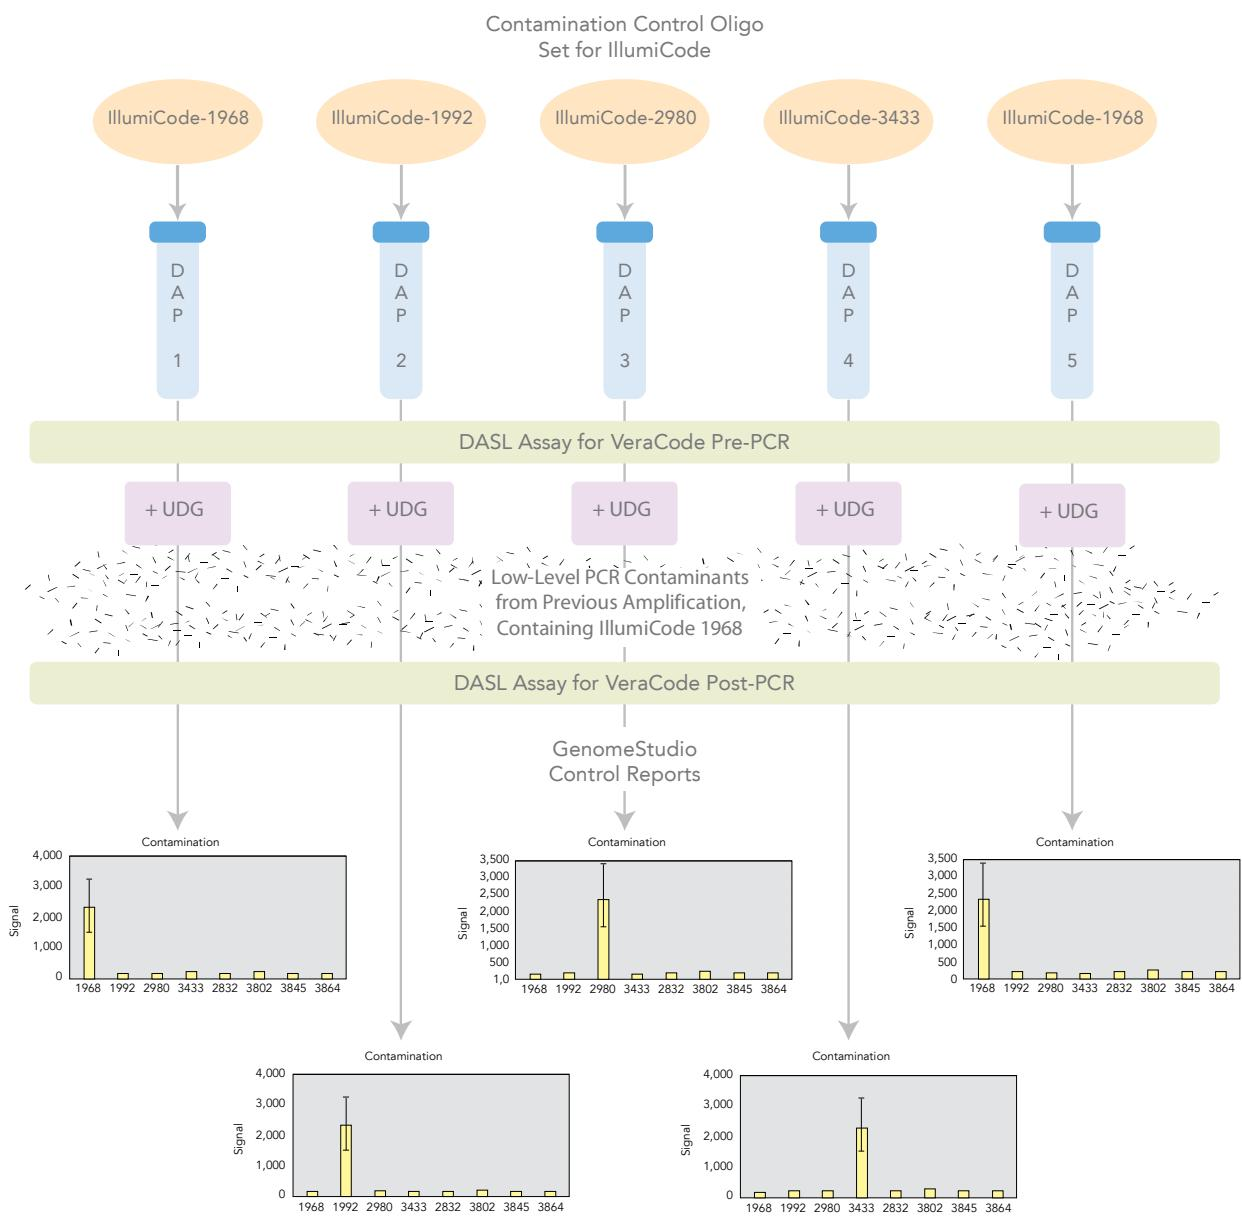

Figure 131 Contaminated Environment with UDG Treatment
- ▶ Figure 131 represents a contaminated environment *with* UDG treatment